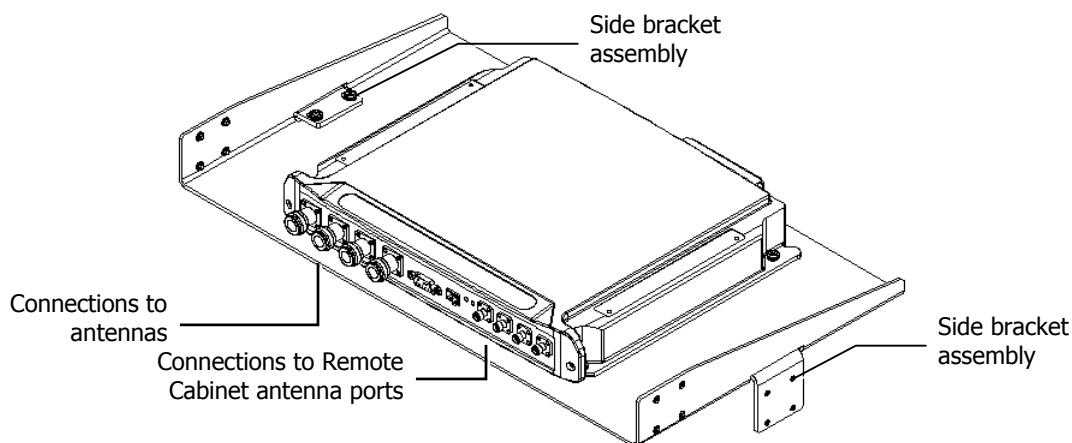

Figure 4-6. MA-860 Rack Installation
1. Assemble two side brackets to the plate sides as illustrated in Figure 4-6.
1. Assemble the side brackets as illustrated in Figure 4-6.